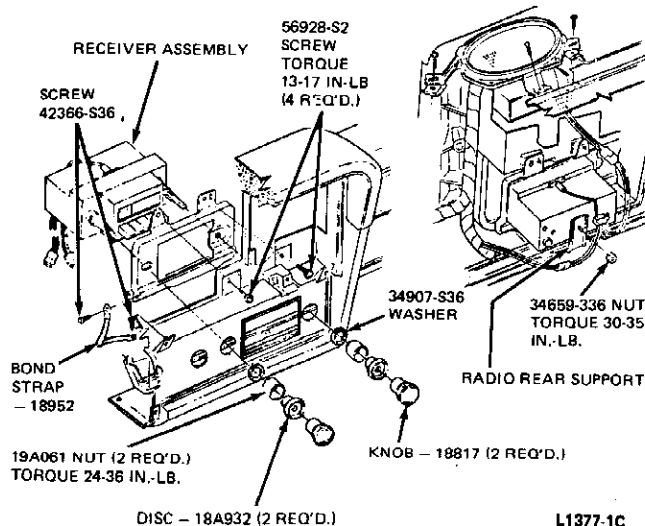

FIG. 3 Radio Installation—Mustang II
2. Remove the radio knobs, discs, control shaft nut and washers (see Fig. 3).